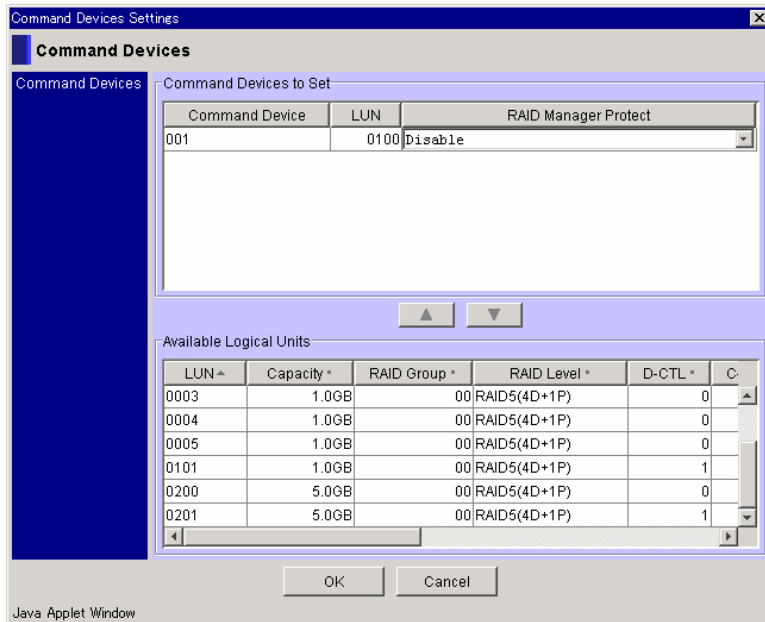

Figure 6.15 Command Devices - Available Logical Units
4. In the **Available Logical Units** list, select the LUN you want to set in the command devices, and click . See Figure 6.15.